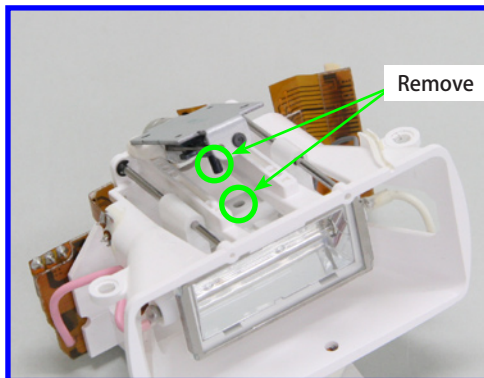

Fig. 038 Removal of the Reflector Ass'y and the Motor Ass'y
- ② Remove the two screws and then remove the Motor Ass'y pin from the Reflector Ass'y hole. (Fig. 038)